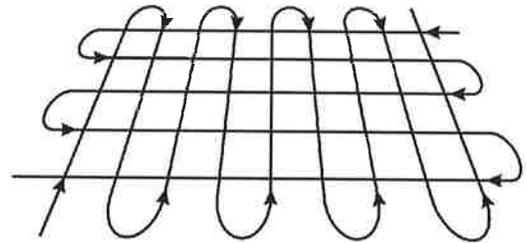

Figure 10-16. To use the right-angle method, make two passes at 90° from each other.
**Right Angle Method**—Make two passes at right angles to each other (Figure 10-16). Space passes at the effective swath width. For example, if the effective swath width is 8 feet, then after each pass, move the spreader over 8 feet from the center of the tire tracks to begin the next pass. When you use this method, you can fill the spreader with half the product. When you have completed all the passes in one half the pattern, you should have used all the material in the spreader. Close the spreader at each turn. Use a street, sidewalk, or similar border to guide your first pass.